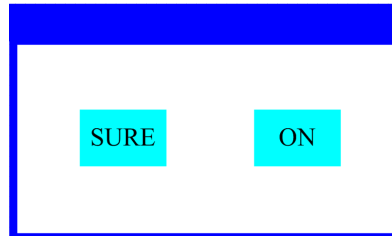

Figure 5 Dialog of confirm
- When the parameter is a key item, click corresponding item, a dialog shown in Figure 5 will been popup ask for the confirm. Chick 'sure' to confirm.